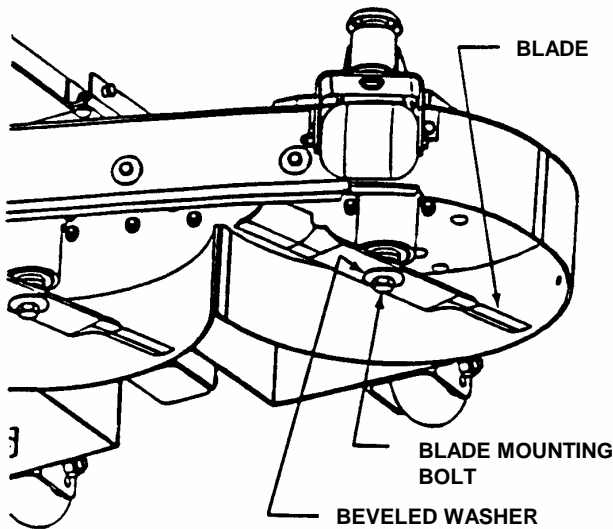

FIGURE 4.5
1. Remove blade. See Figure 4.5.
5. Reinstall blade. See Figure 4.5. Torque blade mounting bolts to recommended range of 70 to 80 ft. lbs.